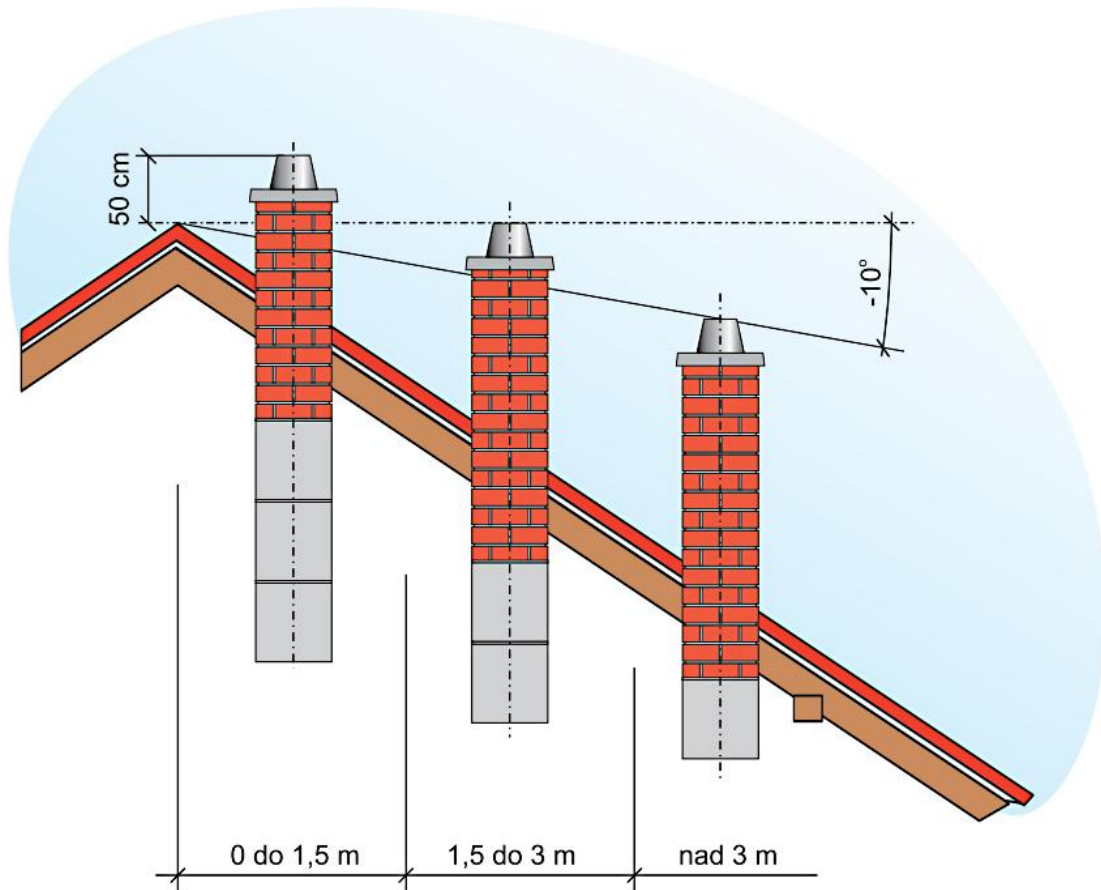

Figure 9.4
- Chimney should come out above the roof according to the recommendations of the showed in image. (Figure 9.4)